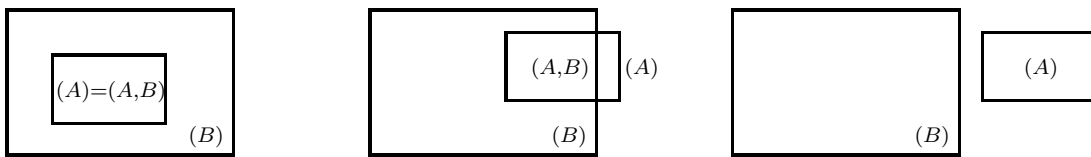

Figure 2: Venn diagrams illustrating conditional probability in eq.(10).
- We can understand this expression in terms of the basic definition of conditional probability, as illustrated in fig. 2. Let A and B be two events with joint probability function $p(A, B)$. The marginal probability of B is $p(B)$. The conditional probability of A given B is: